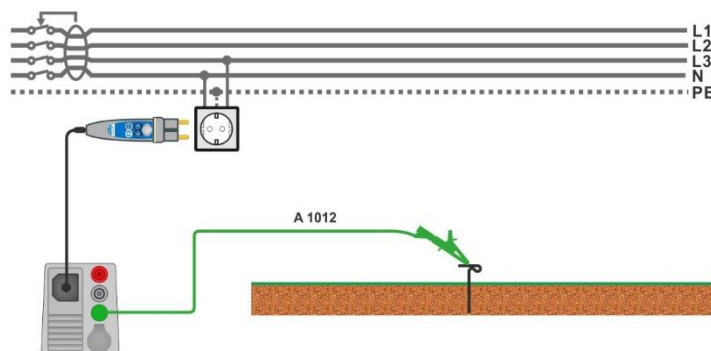

Figure 7.48: Connection for $U_c(P)$ measurement
- Connect test lead P/S to external earthed point (optional), see **Figure 7.48**.